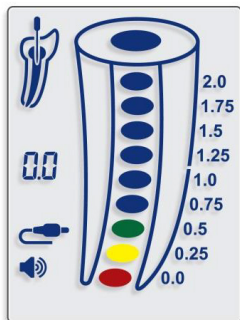

Fig. 10
7.4.12 Reaching the apical foramen (0.0) is indicated by a red color segment inside the root canal image (Fig. 10) and a constant audio tone.